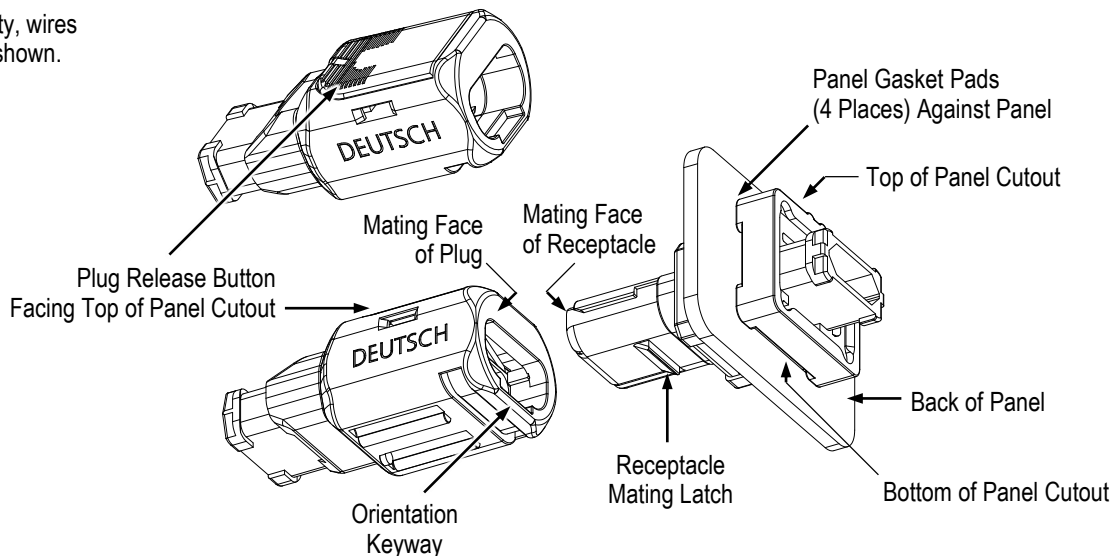

Figure 4
4. From the back of the panel, align the receptacle mating face with the cutout so that the mating latch faces the bottom of the panel cutout, then insert the receptacle into the cutout until the panel latches snap into the panel cutout. Ensure that all panel gasket pads are against the panel. See Figure 4.
5. With the mating face of the plug facing the mating face of the receptacle, align the orientation keys with the receptacle orientation keyways, and push the plug onto the receptacle until it stops. See Figure 4.